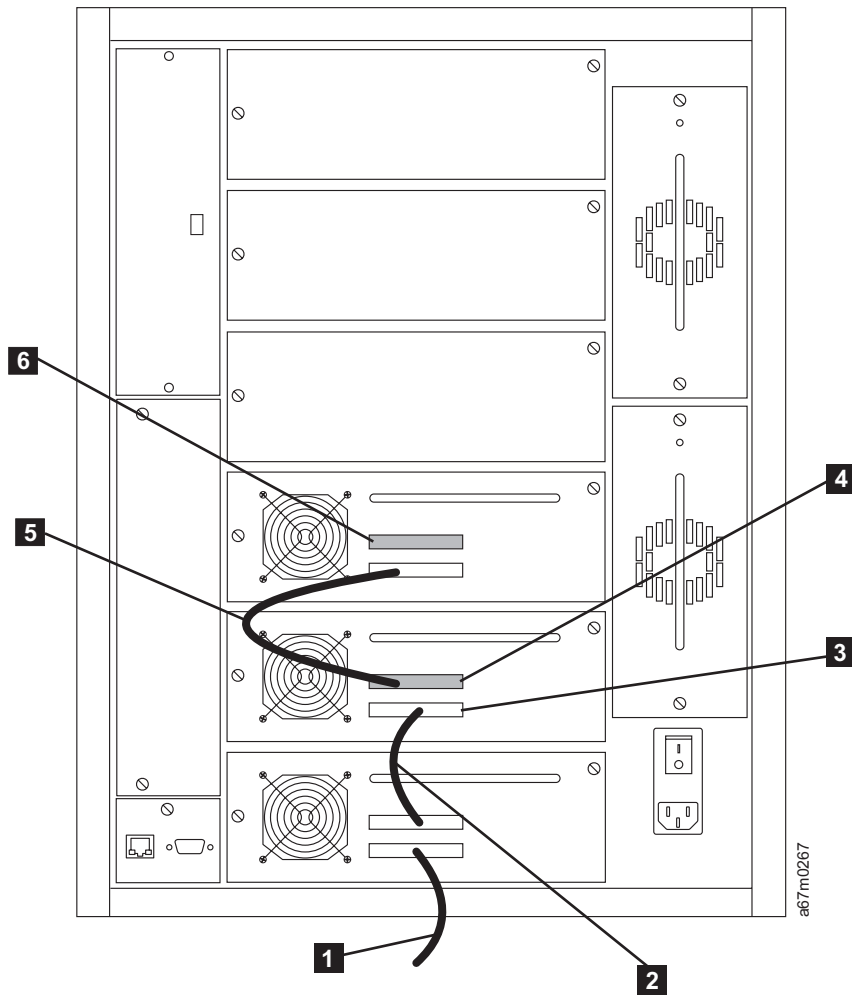

Figure 14-35. Making the host-to-drive connections with three or more drives per SCSI bus
1. Attach the host cable (**1** in Figure 14-35 on page 14-36) to the lower SCSI connector in the lowest drive in the logical library.